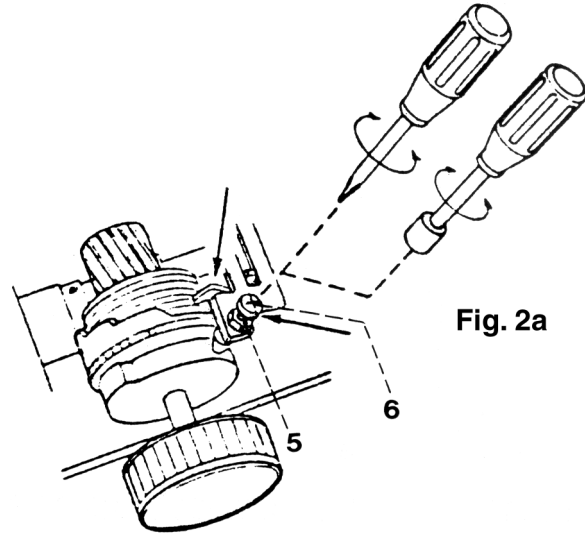

Fig. 2a
- Loosen nut 5 (fig. 2a and 2c).